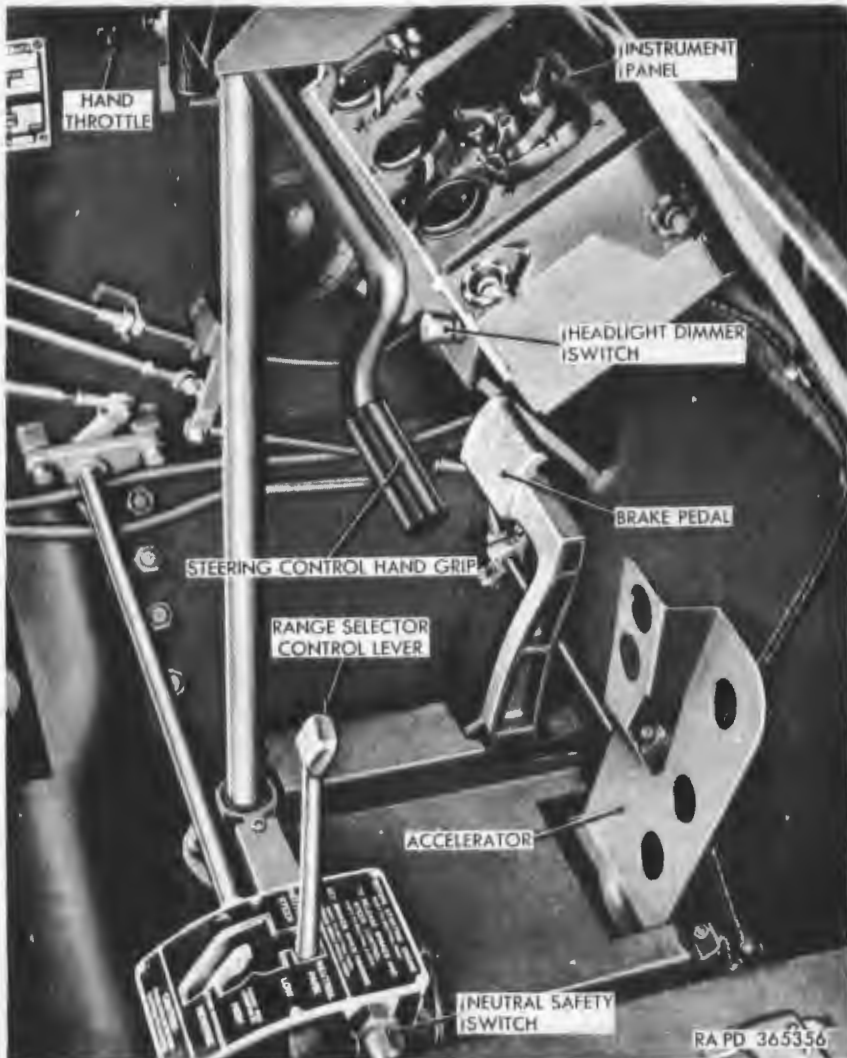
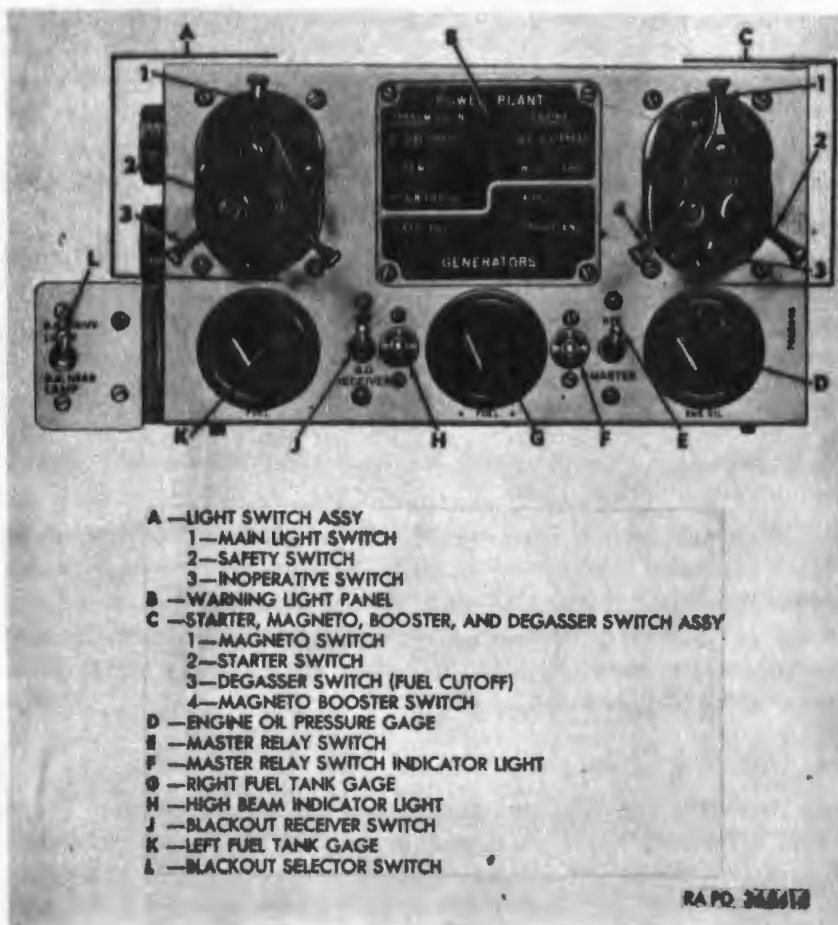

Figure 12. Driving controls, levers, and pedals.
Figure 15. Instrument panel.
19. Accelerator (fig. 12)
(fig. 12)
25. Instrument Panel (fig. 15)
26. Master Relay Switch (fig. 15)
27. Starter, Magneto, Booster, and Degasser Switch Assembly (fig. 15)
a. *General.* The starter, magneto, booster, and degasser switch assembly (C) is located in the upper right corner of the instrument panel and consists of a starter switch, magneto switch, magneto booster switch, and a degasser switch.
a. General. The light switch assembly (A, fig. 15), located in the upper left corner of the instrument panel, controls the driving lights. This switch consists of a main light switch (A-1, fig. 15), a safety switch (A-2, fig. 15), and an inoperative switch (A-3, fig. 15) that is not used on this vehicle. Early and late type vehicles have the same light switch assembly with the exception noted in *b* below.
b. Main Light Switch. The main light switch (A-1, fig. 15) is located at the top of the light switch assembly. The switch has five positions BO DRIVE (blackout headlights), BO MARKER (blackout marker), OFF, STOP LIGHT, and SER DRIVE (service headlights). The switch marked HEAD is inoperative on this vehicle. The main light switch lever can be moved only to the BO MARKER position without releasing the safety switch (*c* below). On early vehicles, the blackout headlights operate when the main light switch is placed in the BO DRIVE position (fig. 16). On late vehicles, a blackout driving light and blackout selector switch were added to be used in conjunction with the periscope M19. The switch is mounted on the instrument panel left mounting bracket and selects either the BO DRIVE LAMP or BO HEAD LAMP when the main light switch is in the BO DRIVE position (fig. 17).
c. *Safety Switch* (A-2, fig. 15). The safety switch is located in the lower right corner of the light switch assembly and prevents the main light switch from being operated accidentally during blackout condition.
The headlight dimmer switch (fig. 12) is located on the hull floor to the left front of the driver's seat. It is a foot-operated, rotary switch which controls the upper and lower beams of the service headlights and blackout headlights. A high beam indicator light (H, fig. 15), located on the instrument panel, shows the position of the dimmer switch.
The blackout receiver switch (J, fig. 15) is located on the lower left face of the instrument panel. It operates the high-voltage supply unit for the periscope M19 which is used in conjunction with the blackout headlights.
a. General. Two fuel gages are mounted in the instrument panel. On early vehicles, the left fuel tank gage (K, fig. 15) is inoperative and the right fuel tank gage (G, fig. 15) indicates the approximate level of fuel in both fuel tanks when the fuel shutoff valve control lever is in the BOTH ON position. Both fuel gages are operative in late vehicles, the left gage indicates the fuel level in the left tank and the right gage indicates the fuel level in the right tank.
a. The engine high-oil-temperature warning light is located in the warning light panel (B, fig. 15) and is marked HI OIL TEMP. The lamp is energized by the engine high-oil-temperature warning light switch and lights when the engine oil temperature is above $245^{\circ} \pm 5^{\circ}$ F.
b. The engine low-oil-pressure warning light is located in the warning light panel (B, fig. 15) and is marked LO OIL PRESS. The lamp is energized by the engine low-oil-pressure warning light switch and lights when the engine oil pressure is less than 30 ± 2 psi on engines through serial No. 7199. On engines with serial No. 7200 and up, the lamp is energized when the pressure is less than 17 ± 2 psi.
c. The main engine generator warning light is located in the warning light panel (B, fig. 15) and is marked LEFT ENG and will light when the main engine generator is not charging properly.
a. The transmission high-oil-temperature warning light is located in the warning light panel (B, fig. 15) and is marked HI TEMP. The lamp is energized by the transmission high-oil-temperature warning light switch and lights when the transmission oil temperature reaches $280^{\circ} \pm 5^{\circ}$ F.
b. The transmission low-oil-pressure warning light is located in the warning light panel (B, fig. 15) and is marked LO LUBE PRESS. The lamp is energized by the transmission low-oil-pressure warning light switch and lights when the transmission oil pressure is less than 11 psi.
The main engine oil pressure gage (D, fig. 15), located in the lower right corner of the instrument panel, indicates the ap-
- (4) *Switch*. The blackout receiver switch (J, fig. 15) on the instrument panel connects the high voltage power supply unit to the vehicle batteries.
- (5) *Power supply unit*. The high-voltage power supply unit is located on the rear of the bulkhead behind the driver and supplies the power through a high voltage cable to operate the periscope M19.